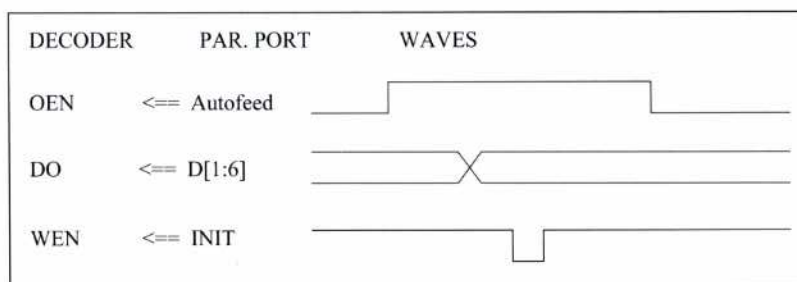

Figure 11 - Channel Selection
**Fig.11** shows how this is done: